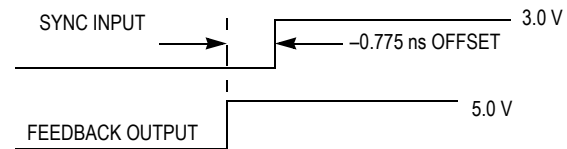

Figure 4. Depiction of the Fixed SYNC to Feedback Offset (t_{PD}) Which is Present When a 470 kΩ Resistor is Tied to V_{CC} or Ground
4. A $1\text{ M}\Omega$ resistor tied to either Analog V_{CC} or Analog GND, depicted in Figure 4, is required to ensure no jitter is present on the MC88915 outputs. This technique causes a phase offset between the SYNC input and the output connected to the FEEDBACK input, measured at the input pins. The t_{PD} spec describes how this offset varies with process, temperature, and voltage. The specs were determined by measuring the phase